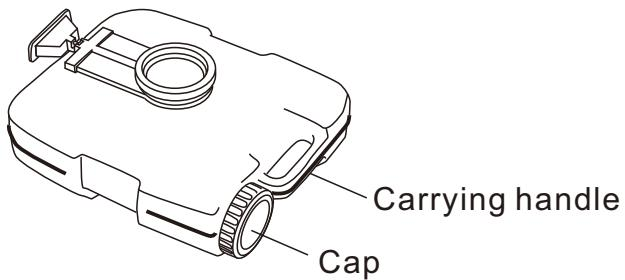

Figure 9
- When removing the cap, make sure that the waste holding tank is in a vertical position (figure 9).